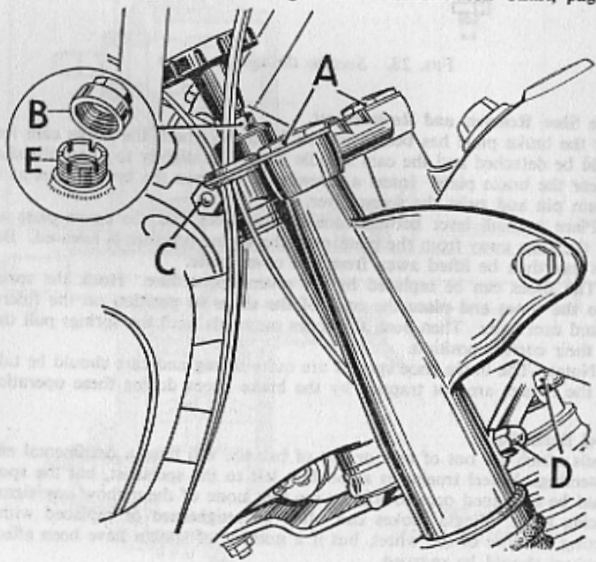

FIG. 29. Steering head adjustment.
Remove the cap nut (A) Fig. 29, and the drain screw in the lower end of the fork sliding member.
Unscrew the steering damper and remove the top cap (B) Fig. 29. Slacken the clamping nuts (C) and (D), then tighten down the sleeve (E) until the adjustment is correct. Hold the handlebars lightly and move them round slowly. The steering should be free, and the forks must rotate smoothly. If the movement is "lumpy" it is a sign that the adjustment is too tight, or that the ballraces are damaged. When the adjustment is correct tighten the clamping nuts (C) and (D), replace the cap (B) and the steering damper.